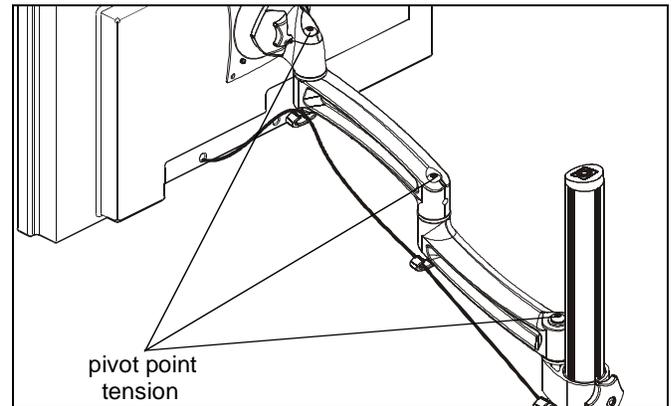

Figure 11
1. Adjust pivot position as desired. (See Figure 11)
2. Adjust pivot point tension screws to change pivot adjustment tension. (See Figure 11)